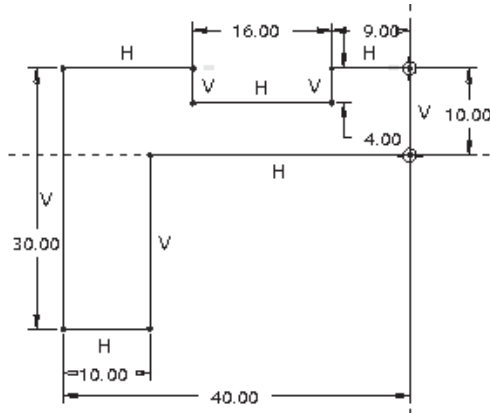

Figure 4-93 Sketch with dimensions and constraints for the base feature
- b. Create the base feature, refer to Figures 4-93 and 4-94.
From the model, the section to be extruded for the base feature is evident. The section sketch is shown in Figure 4-93. When this sketch is extruded, it will create the base feature.
1. Draw the sketch using various sketcher tools, as shown in Figure 4-93.
2. The sketch is dimensioned automatically and some weak dimensions are assigned to it. Add the required constraints and modify the weak dimensions, as shown in Figure 4-93.